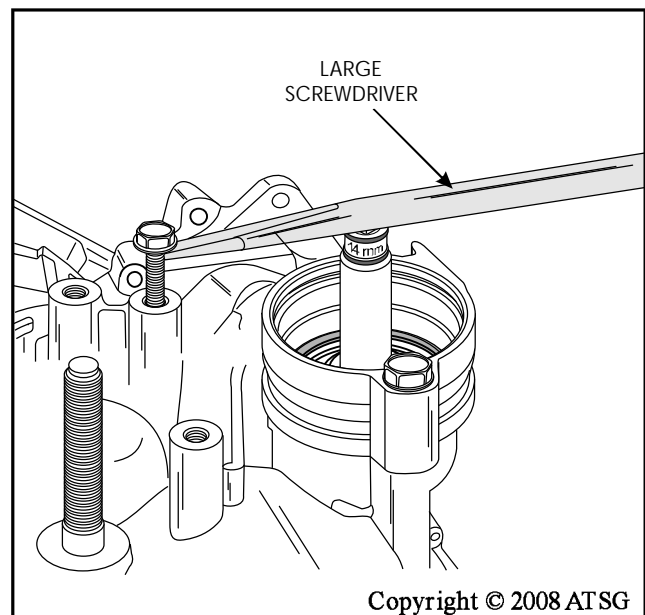

Figure 86
49. Install 14mm deep socket on adjusting nut, as shown in Figure 86.
50. Compress the piston and return spring, using a large screwdriver and install the snap ring, as shown in Figure 86.